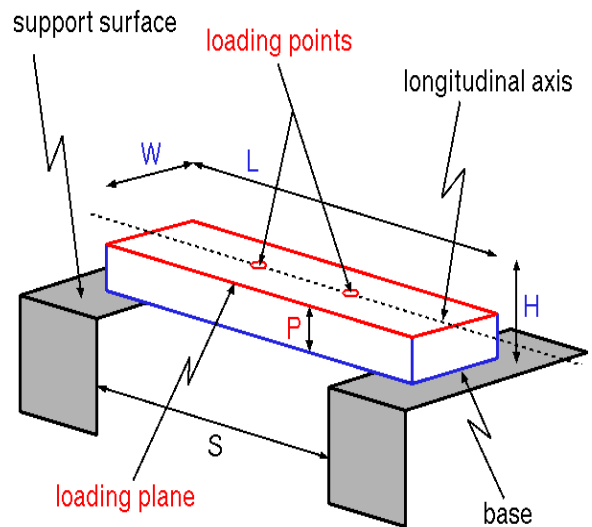

Figure 1
- b. The bridge (see Figure 1) must span a gap (S) of 300. mm, be no longer (L) than 400. mm, be no wider (W) than 80. mm, and be no taller (H) than 110. mm above the support surfaces. The bridge structure may not project below the support surfaces.
- c. The loading plane (P) shall be horizontal and shall lie on the physical top of the bridge between 100. mm and 110. mm above the support surfaces.
- The load will be applied with the center of the plate at one of two possible locations on the longitudinal axis of the bridge: either 30. mm or 50. mm to either side of the center of the 300. mm span (see Figure 1). Competition loading will stop at 50 kilograms. However, loading will continue until bridge failure.